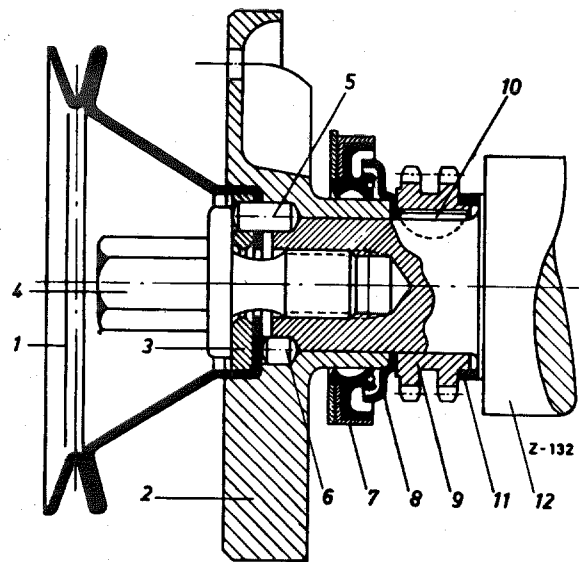

Fig. 01—4/38
2. Remove the shoulder screw (4) which fixes the pulley and the counterweight to the crankshaft, and take off the washer (3) and the pulley (1), then pull the counterweight (2) using Puller 000 589 17 33 off the crankshaft (Fig. 01—4/38).